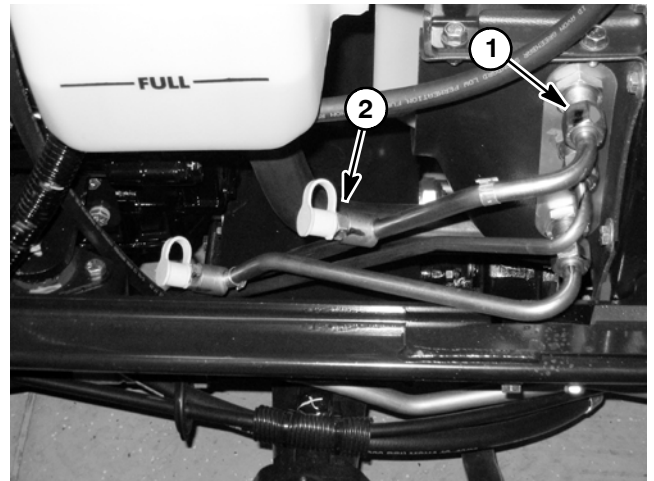

Figure 45
2. Raise and support hood to gain access to the hydraulic tubes that supply hydraulic flow to engine cooling fan motor (Fig. 45). Connect a 5,000 PSI (345 bar) pressure gauge with hydraulic hose attached to test port on hydraulic tube connected in the upper location on radiator shroud.